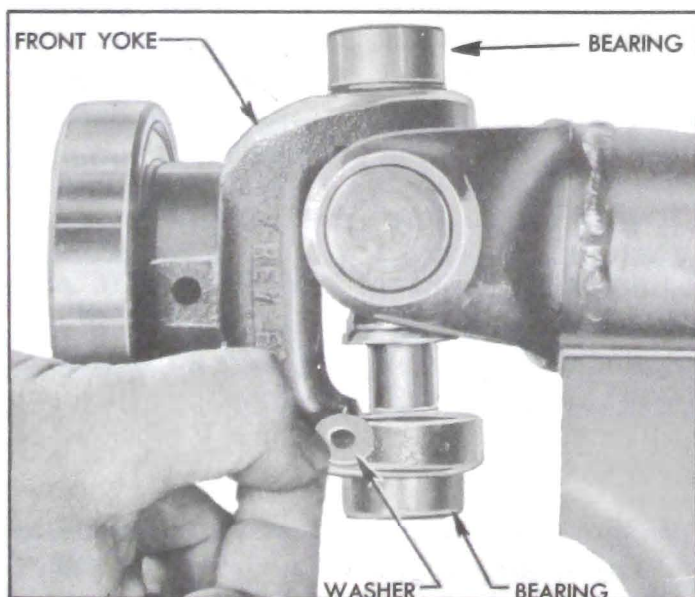

Figure 6-12—Placing Washers Inside Front Yoke Bearing
5. Now place flat washers ($\frac{9}{16}$ " O.D.) down in lower end of bearing. See figure 6-12. Total thickness of washers should be $\frac{1}{8}$ " to $\frac{3}{16}$ ".